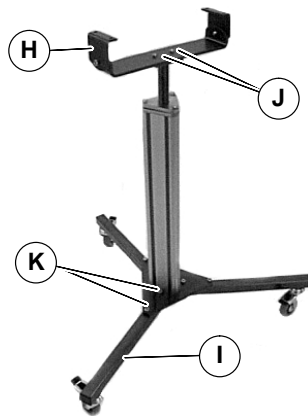

Figure 5
2. Assemble conveyor support (H of Figure 5) to post with M6 screws (J). Tighten screws to 140 in-lb (15 Nm).